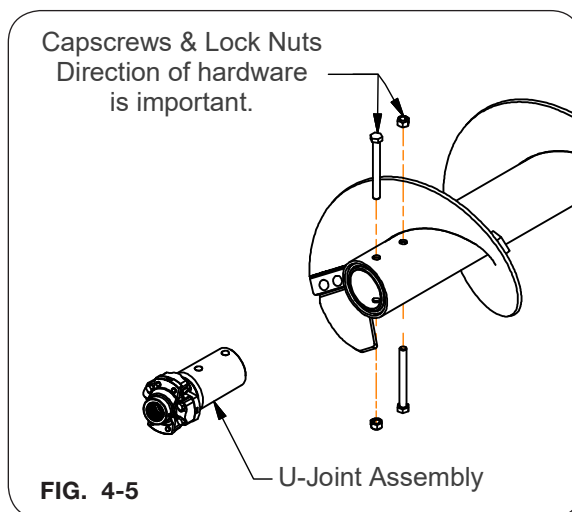

FIG. 4-5
6. Attach the u-joint assembly to the new lower auger flighting by placing 5/8"-11UNC x 6" capscrews (9390-136) and 5/8"-11UNC lock nuts (9801) into the auger from opposite directions as shown in FIG. 4-5.